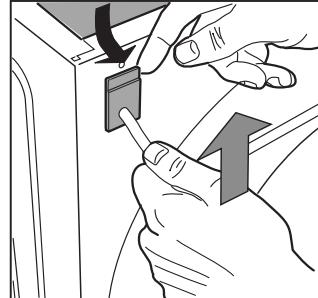

Fig. 5
- 4.** Remove the upper part of the cable slightly from the back panel of the appliance, pull the power supply cable upwards and take it out [fig. 5].